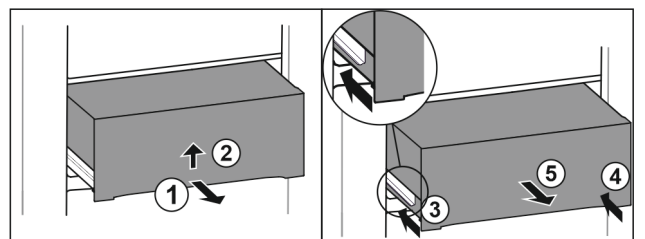

Fig. 68
- ▶ Pull out drawer half-way. Fig. 68 (1)
- ▶ Lift the drawer from the bottom. Fig. 68 (2)
- ▶ Insert left rail. Fig. 68 (3)
- ▶ Insert right rail. Fig. 68 (4)
- ▶ Remove drawer to the front. Fig. 68 (5)